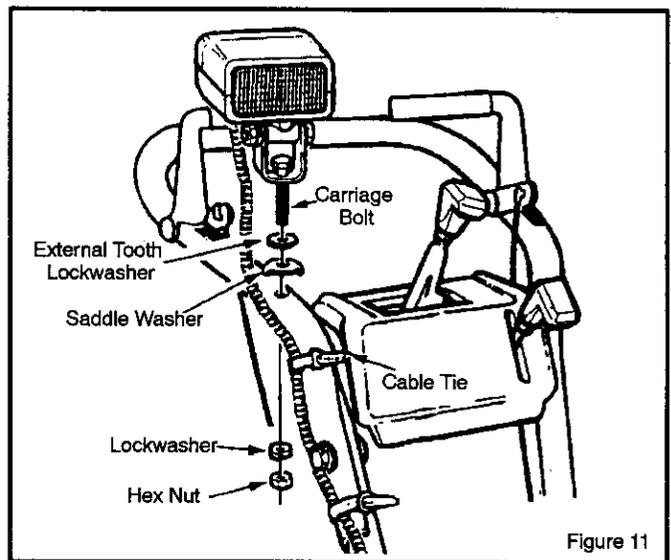

Figure 11
2. Turn the headlight to the top side of the upper handle. Ensure external tooth lock washer and saddle washer are in place as shown in Figure 11.